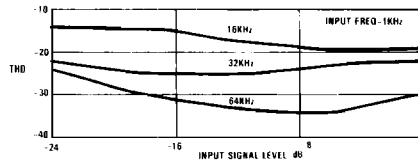

FIGURE 2. CVSD SIGNAL LEVEL vs. TOTAL HARMONIC DISTORTION
- There is one NR (Non-Return Zero) data bit per clock period. Data is clocked out on the negative clock edge. Data is clocked into the CVSD on the positive going edge (see Figure 2). Clock may be run at less than 9Kbps.